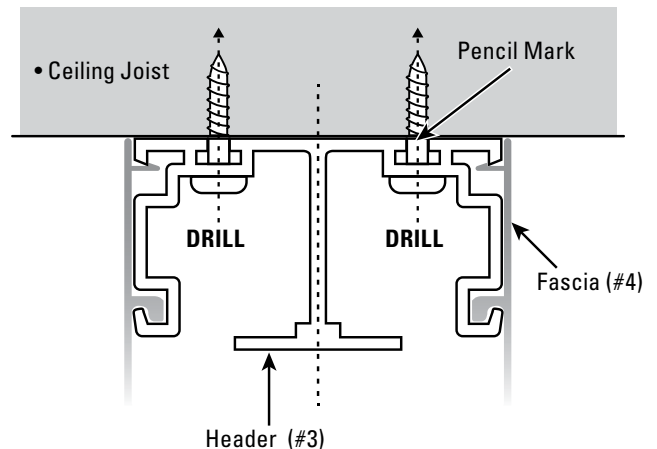

Figure 3B
C. Remove the Header and drill holes where you made the pencil marks. Now install the Header, making sure that you are securing into the ceiling joist or stud for support. See **Figure 3B** for reference.